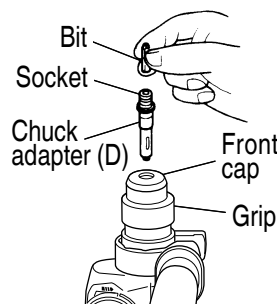

Fig. 18
4. When driving machine screws (Fig. 18)
5. When driving wood screws (Fig. 18 on page 45)